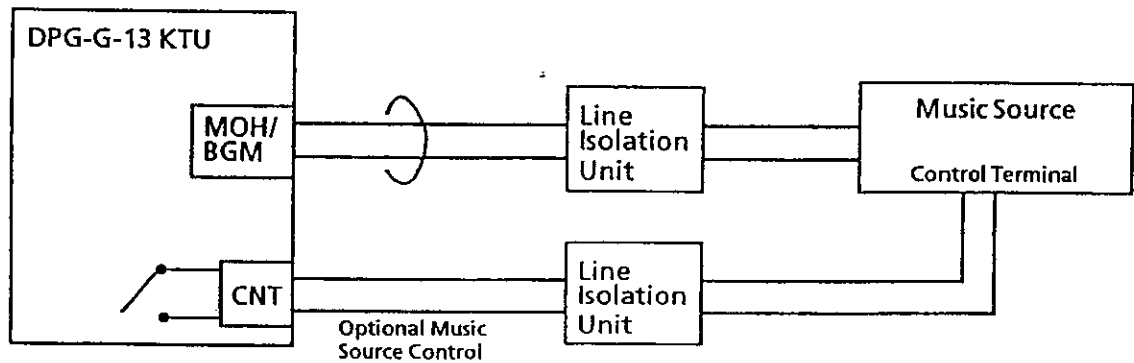

Figure 1-62 MOH/BGM Source Connection
1. Shielded cable should be used from the MOH source to the KSU. The shield on this cable should be grounded. (Refer to Figure 1-62-MOH/BGM Source Connection.)